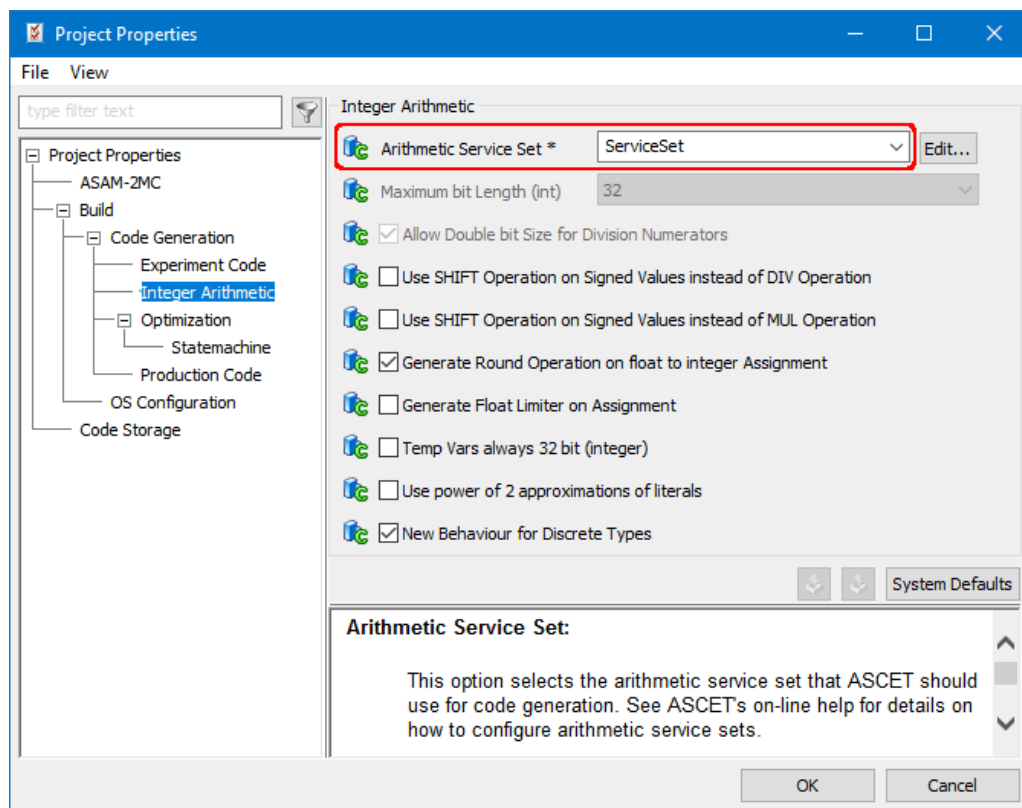

Figure 6.4: Selecting the service set in ASCET
2. In the "Arithmetic Service Set" combo box (see also Figure 6.4 on the next page), select the service set you want to use.